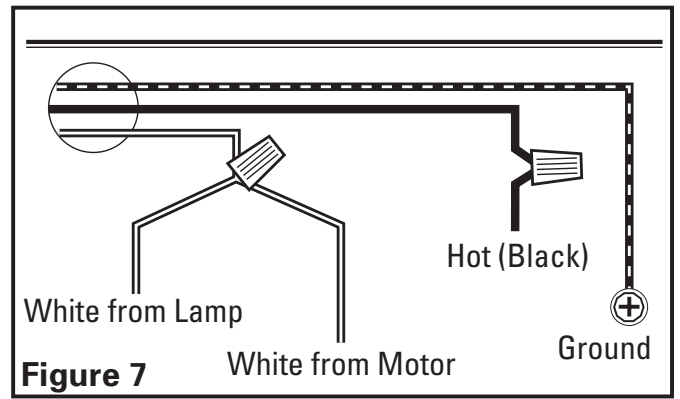

Figure 7
1. Connect the 2 loose White wires from the range hood to the White wire from the supply, and the loose Black wire from the range hood to the Black wire of the supply. Connect the ground wire (green or bare) from the supply to the green ground screw of the hood. Use approved methods for all connections (**Figure 7**).